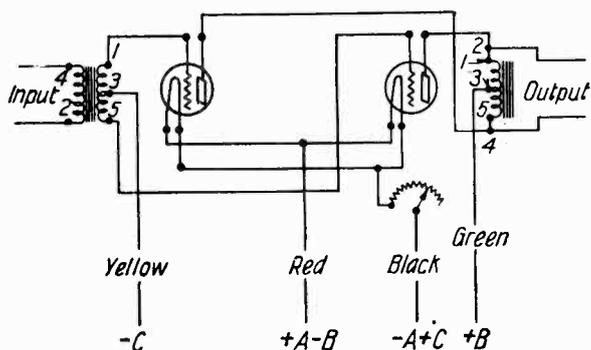

Fig. 2—Diagram of Connections
To change wiring of Radiola III-A refer to Figure 2 and proceed as follows:
- (1) Remove screws at sides of wooden case. Push several inches of battery cable into case and lift panel.
- (2) Untie strain cord which holds cable to frame of transformer.
- (3) Unsolder black flexible lead "h-i-g" at "g" (fig. 2) and resolder it to "j".
- (4) Without disturbing bus-bar "l-f", unsolder flexible battery cable lead "d-e-f" and resolder to "g" (from which a connection was just removed) thus forming the connection "d-e-g".
- (5) Fasten strain cord to frame of transformer so that the individual cable leads are relieved of possible tension.